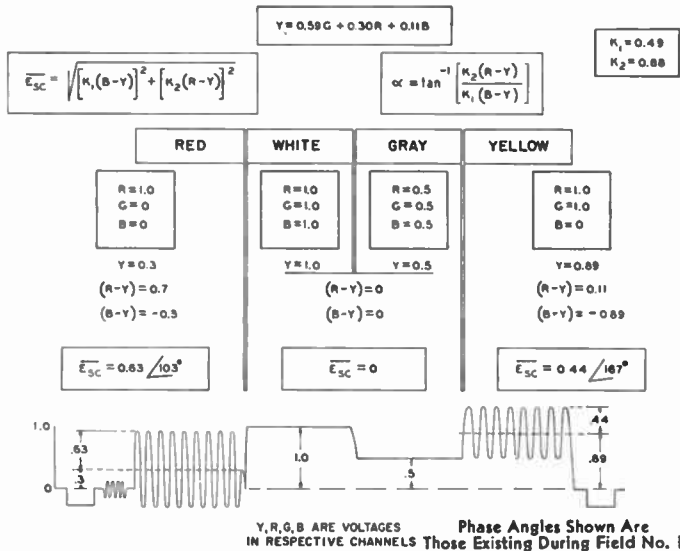

Fig. 3—Video signal (red, white, gray, and yellow) color bars.
carrier made from $\frac{1}{2}$ -v levels of signals in the red, green, and blue channels. In these two cases, as can be seen from the equations in Fig. 3, the quantities $(E'_R - E'_Y)$ and $(E'_B - E'_Y)$ reduce to zero and there is no output from either of the two color modulators. In other words, the NTSC system only transmits color subcarrier during the time there is color information in the scene. If a scene should contain both color and black and white, no color subcarrier is radiated during the time the camera is scanning the monochrome picture elements. During this time interval the picture signal automatically becomes the same as that which would be radiated by a standard black and white transmitter. The fourth stripe is a yellow vertical bar which in an additive color system may be generated from 1-v signals in the red and green channels. The (E'_Y) signal has value of 0.89 v above black level, while color subcarrier has peak value of 0.44 v with phase angle relative to output of $(E'_B - E'_Y)$ modulator of 167° during field number one.
Referring to Fig. 3, it can be seen that during the time red and yellow information is being transmitted negative voltages exist in the $(E'_B - E'_Y)$ channel.
Fig. 3 shows the video voltage generated when transmitting a scene consisting of four equal-width vertical bars of red, white, gray, and yellow. The waveform shown at the bottom is taken over a line period of 63.5 μ sec. At the extreme left is the standard horizontal synchronizing pulse which is followed by a burst of 3.89 mc occurring during the back porch of the horizontal blanking period.³ The burst signal is transmitted at a constant reference phase following each horizontal synchronizing pulse, and is used in the color receiver to accurately lock the 3.89-mc oscillator which feeds the synchronous demodulators. The first of the four vertical bar signals is a red stripe having a width of 13 μ sec (one-fourth of picture width). During this time interval the average value, which is the (Y) or luminance signal, is 0.3 v above black level. The color subcarrier has a peak value of 0.63 v and a phase angle of 103 degrees relative to the output of the $(E'_B - E'_Y)$ modulator during field number one. The second stripe of Fig. 3 is a bright white vertical bar made from 1-v signals of red, green, and blue, while the third stripe is a gray bar